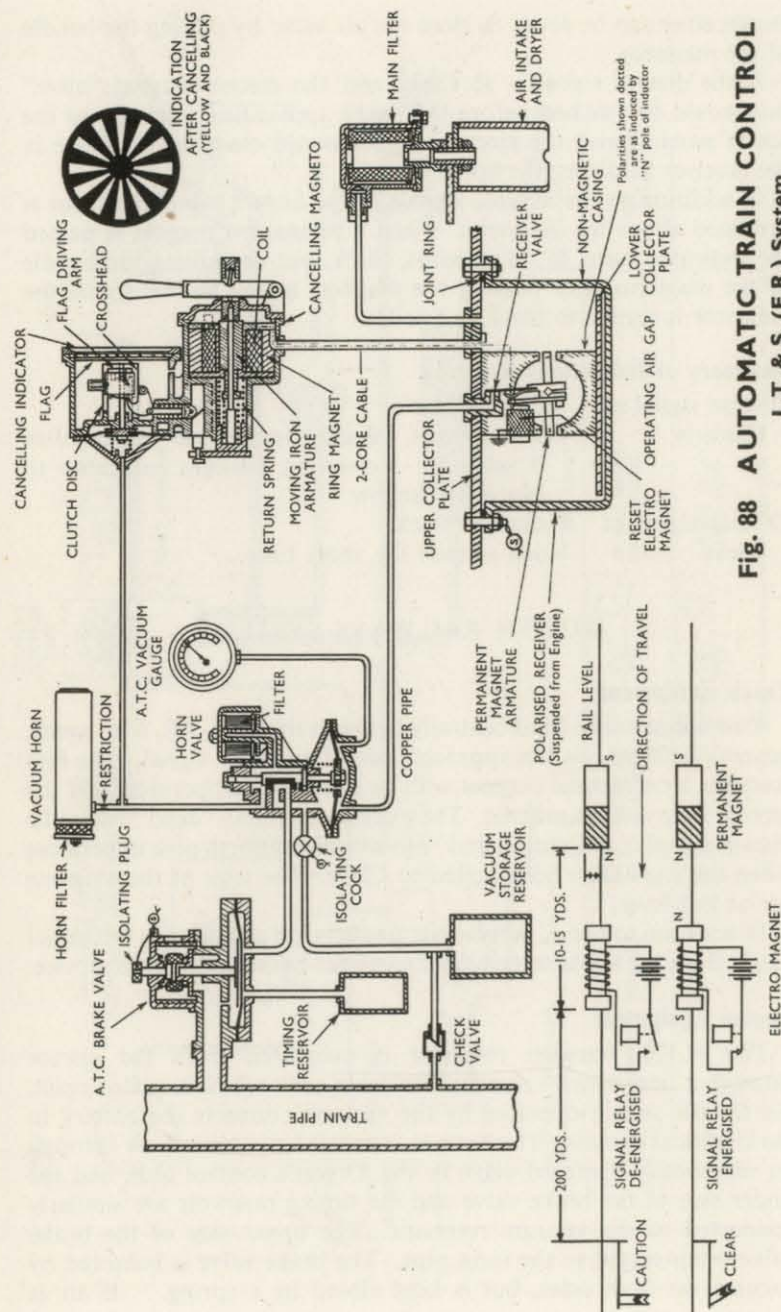

Fig. 88 AUTOMATIC TRAIN CONTROL
- (b) The system in use on the Eastern Region (London, Tilbury and Southend section) (Fig. 88).